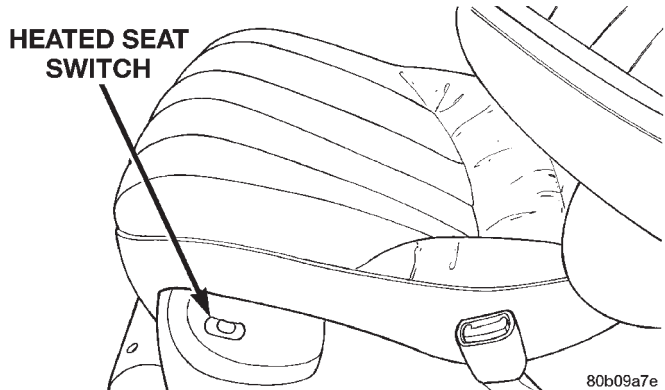
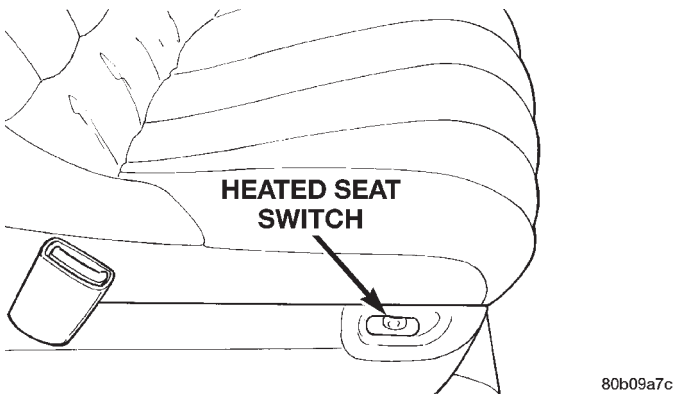

Fig. 31 Right Heated Seat Switch
Fig. 32 Left Heated Seat Switch
- (1) Remove inboard side cover (Fig. 31) and (Fig. 32).
- (2) Disconnect wire connector from heated seat switch.
- (3) Carefully depress locking legs on switch and push switch free of cover.